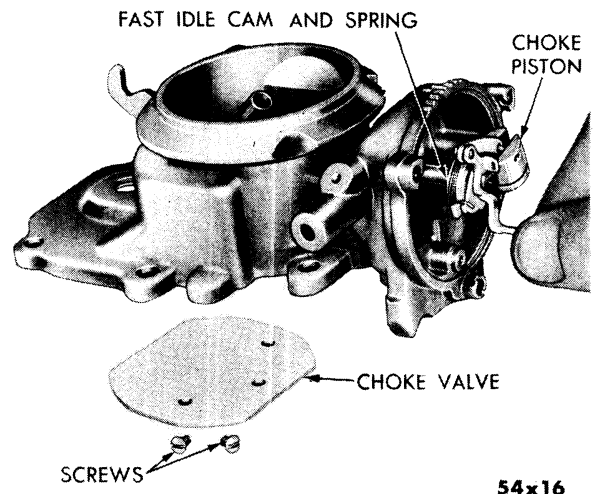

Fig. 9—Removing or Installing Choke Shaft and Piston
- (7) Withdraw the choke piston, link, and shaft out of the air horn, as shown in Figure 9.